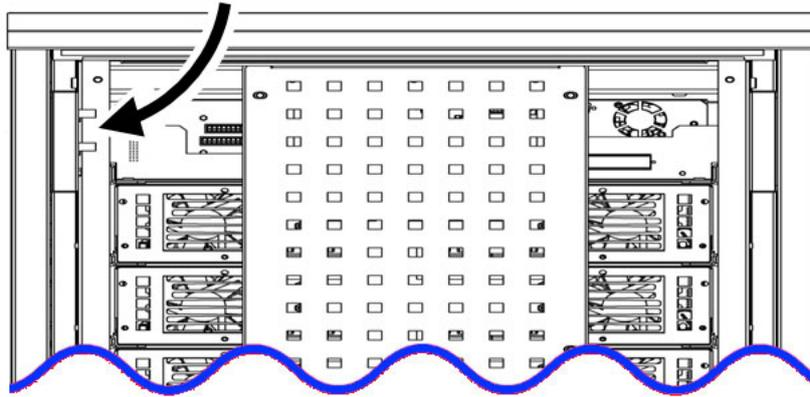
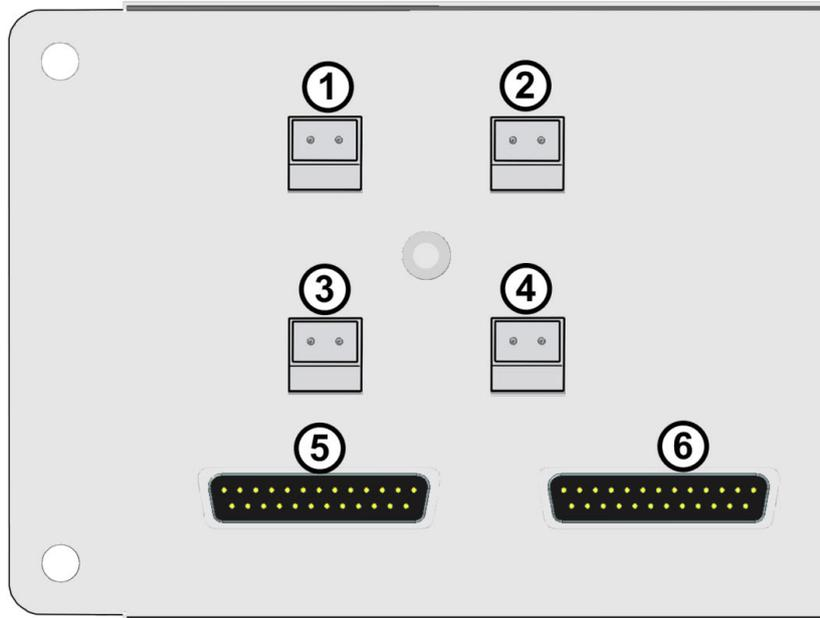

Figure 33: Location of connector group 3
Figure 34: Close-up of connector group 3
Table 10: Key to Figure 34
The "Load on Bypass" dry contact is located on the rear of the **Centric** controller, in connector group 3 (see Figure 33, and item 4 in Figure 34). This dry contact is normally opened (N.O.), and has two pins. The contact is voltage free; it can accept up to 250 Vac 10 A.
The forced bypass contact is located in connector group 3. See Figure 33 and Figure 34.